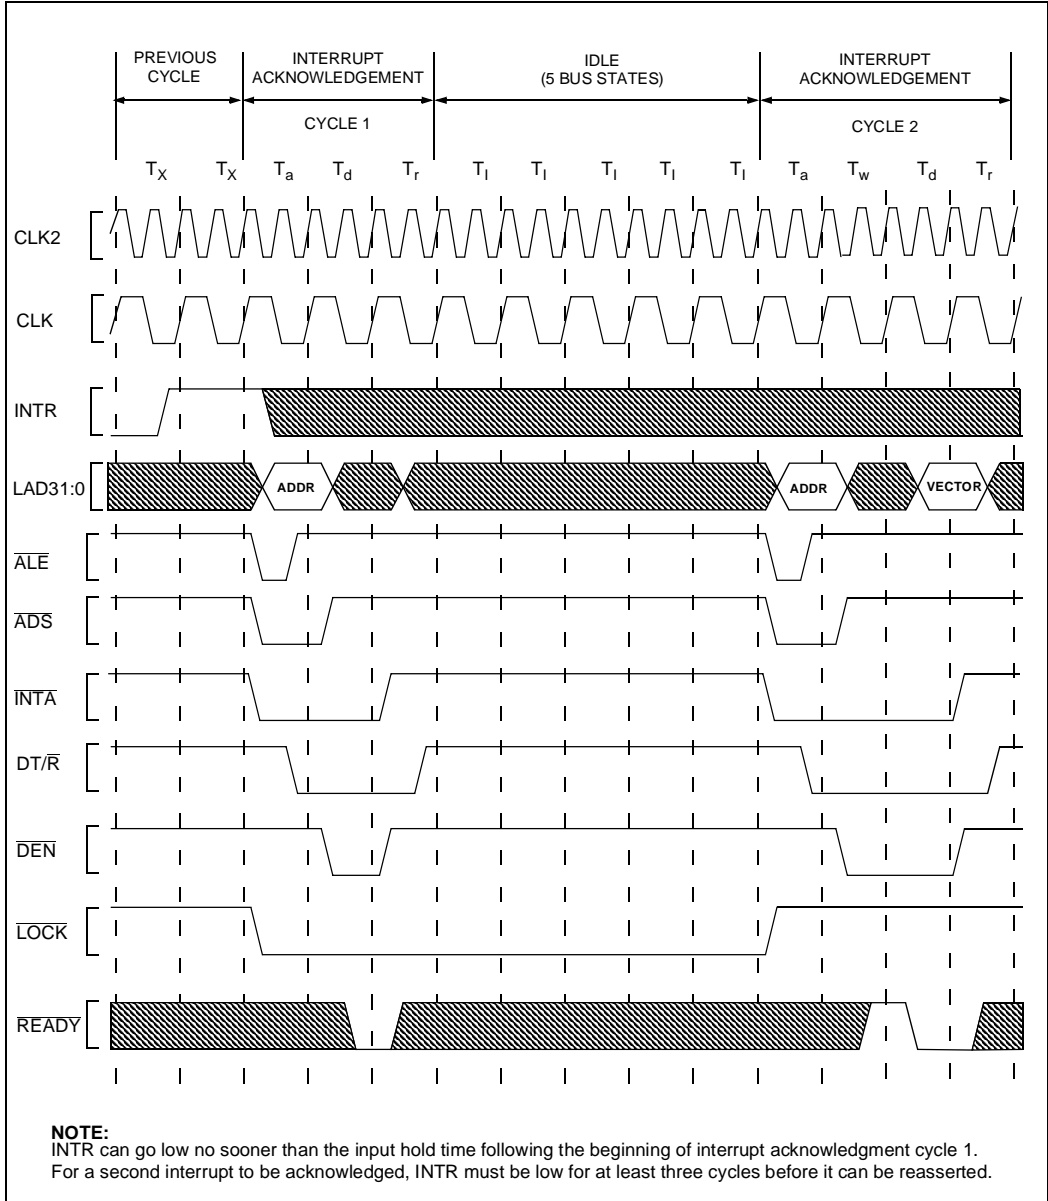

Figure 27. Interrupt Acknowledge Transaction
- Figure 27, Interrupt Acknowledge Transaction \(pg. 34\)